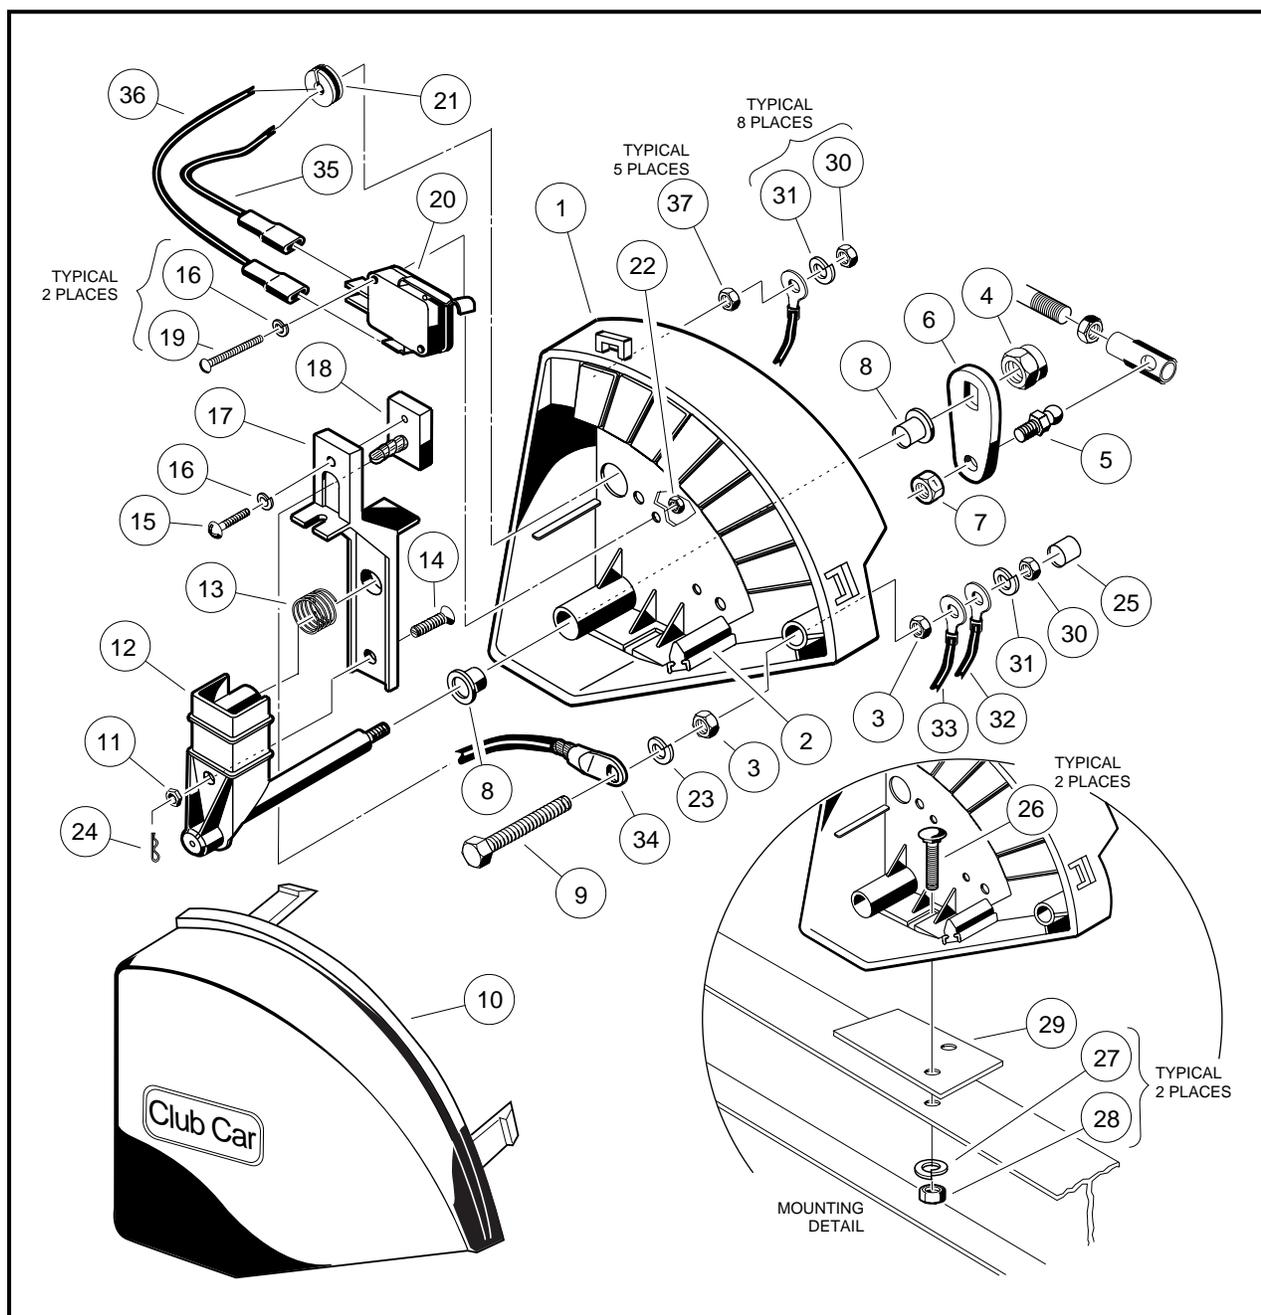

Figure 12-8 V-Glide Wiper Switch
The V-Glide wiper switch is located in the battery compartment next to battery No. 6 (**Figure 12-8, Page 12-10**). The wiper switch arm adjustment should be checked if the brush on the V-Glide wiper switch is replaced. The pedal group adjustments (see Section 5—Accelerator and Brake Pedal) should be checked if any of the pedal group or the accelerator rod has been adjusted, removed, or replaced. See following **WARNING**.
3. To adjust surface contact, remove the spring cotter pin (24) and turn the adjustment screw (14) until the surfaces of the wiper switch arm brush and fixed contacts are parallel. (**Figure 12-8, Page 12-10**). See following **NOTE**.
- A MID-MODEL YEAR (1998) DESIGN CHANGE RESULTED IN THE REMOVAL OF THE SPRING COTTER PIN (24) AND THE REPLACEMENT OF THE HEX NUT (11) WITH A NYLON LOCK NUT (**FIGURE 12-8, PAGE 12-10**).
4. After adjustment has been made, apply one drop of Loctite[®] 290 thread locking compound to the adjustment screw (14) at the hex nut (11). Then install the spring cotter pin (24) through the hole in the adjustment screw (**Figure 12-8, Page 12-10**). See following **NOTES**.
2. Disconnect the accelerator rod from the V-Glide wiper switch ball stud (5) and place the wiper switch arm on the topmost fixed contact (**Figure 12-8, Page 12-10**).
3. Remove the cap protector (25), nut (30), and lock washer (31) from the bolt (9) and remove the two 6 gauge white wires (32 and 33) (**Figure 12-8, Page 12-10**).
4. Remove the second nut (3) from the bolt (9) and then remove the bolt from the V-Glide wiper switch housing (1) (**Figure 12-8, Page 12-10**).
5. Remove the third nut (3) and lock washer (23) and wire (34) from the bolt (9) (**Figure 12-8, Page 12-10**).
6. Replace the wiper switch arm brush (18) as follows (**Figure 12-8, Page 12-10**).
- 6.1. Remove screw (15), lock washer (16) and pull the arm assembly (17) away from the fixed contacts (**Figure 12-8, Page 12-10**).
- 6.2. Remove brush (18) by pulling wire through hole in wiper switch arm (17) (**Figure 12-8, Page 12-10**).
- 6.3. Install the new wiper switch arm brush assembly (18) into the wiper switch arm assembly (17) (**Figure 12-8, Page 12-10**).
- 6.4. Install the screw (15) and lock washer (16) through the wiper switch arm into the brush. Tighten the screw to 7 in.lb (0.8 N-m).
7. Install the arm brush wire terminal (34) onto the bolt (9) and then install the nut (3) and lockwasher (23). Thread the nut against the arm brush wire terminal and tighten it to 40 in.lb (4.5 N-m) (**Figure 12-8, Page 12-10**).
8. Install the bolt (9) through the wiper switch housing (1) and then install the nut (3) onto the bolt. Tighten the nut to 40 in.lb (4.5 N-m) (**Figure 12-8, Page 12-10**).
9. Install the 6 gauge white wire from the first resistor and the 6 gauge white wire from the solenoid onto the bolt (9), then install the lock washer (31) and nut (30). Tighten nut to 40 in.lb (4.5 N-m) (Figure 12-8, Page 12-10).
11. Connect the accelerator rod to the V-Glide wiper switch ball stud (5) (Figure 12-8, Page 12-10).
12. Install the V-Glide wiper switch cover (10) (Figure 12-8, Page 12-10).
2. Remove nuts (30) and lock washers (31), then remove resistor wires from wiper switch (**Figure 12-8, Page 12-10**).
3. Remove the cover (10) from the wiper switch (**Figure 12-8, Page 12-10**).
4. Disconnect the black wire (36) from the charger receptacle (**Figure 12-8, Page 12-10**).
5. Disconnect the green wire (35) from the small post on the solenoid (**Figure 12-8, Page 12-10**).
6. Remove nuts (28) and lock washers (27) securing V-Glide wiper switch to vehicle frame and then remove the wiper switch from vehicle (**Figure 12-8, Page 12-10**). Re-secure shim (29) to vehicle frame.
1. Remove the nut (3) and slide the bolt (9) out of the wiper switch housing (**Figure 12-8, Page 12-10**).
2. Remove the nut (4) and bell crank (6) (**Figure 12-8, Page 12-10**).
3. Slide wiper switch arm assembly out of the V-Glide wiper switch housing (1) (**Figure 12-8, Page 12-10**).
4. Remove the spring cotter pin (24) (if present) and disassemble the wiper switch arm assembly. Unscrew the adjustment screw (14), retainer nut (11), and spring (13). Remove all thread locking compound from the threads using gasket remover (**Figure 12-8, Page 12-10**). **See NOTES on page 12-8.**
5. To remove the bearings (8) (**Figure 12-8, Page 12-10**) lightly tap them from the back with a punch.
1. Install bearings (8) into the wiper switch housing by lightly tapping them with a plastic hammer. Make sure that the collars of the bearings are flush against the wiper switch housing (**Figure 12-8, Page 12-10**).
2. With the spring (13) in place, hold the V-Glide wiper switch arm shaft (17) and carrier (12) together (**Figure 12-8, Page 12-10**). **See following CAUTION.**